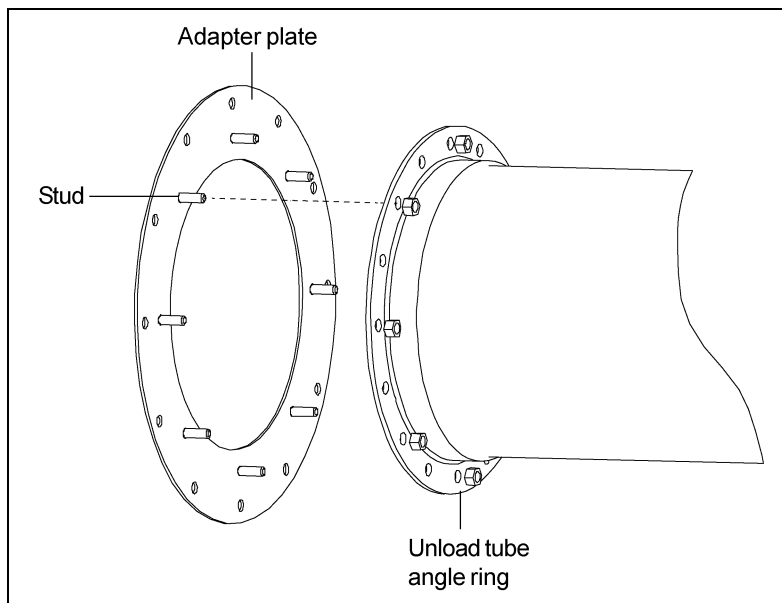

Figure 4A
2. Insert studs through the holes and fasten using nuts from tube end plate. (See Figure 4A.)